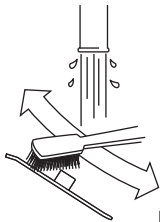

Fig. 25
- 1 Remove contaminants on the surface with a cloth or soft bristle brush under running tap water (Fig. 25).